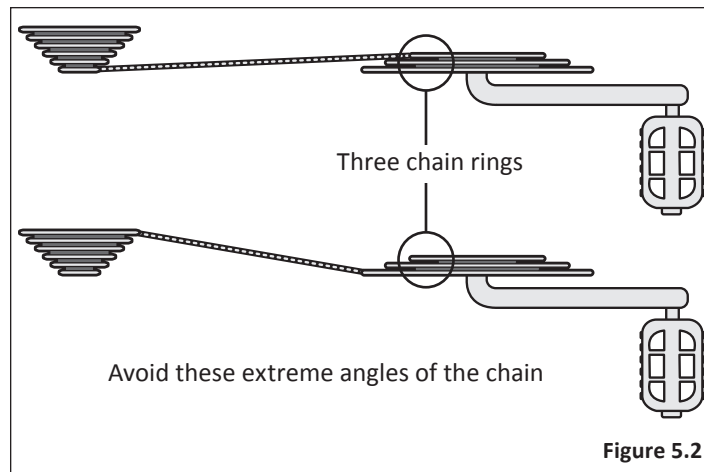

Figure 5.2
- For bicycles with 3 front chain rings; avoid “Cross Chaining”, which is the position when the chain is in the smallest cog in the rear combined with the inner or smallest chain ring in the front, or the largest cog in the rear and the outer or largest chain ring in the front. These gear positions put the chain at the most extreme angle and can cause premature wear to the drivetrain. Bicycles with 3 front chain rings have enough gear “overlaps” that these gears are not needed. **Figure 5.2**